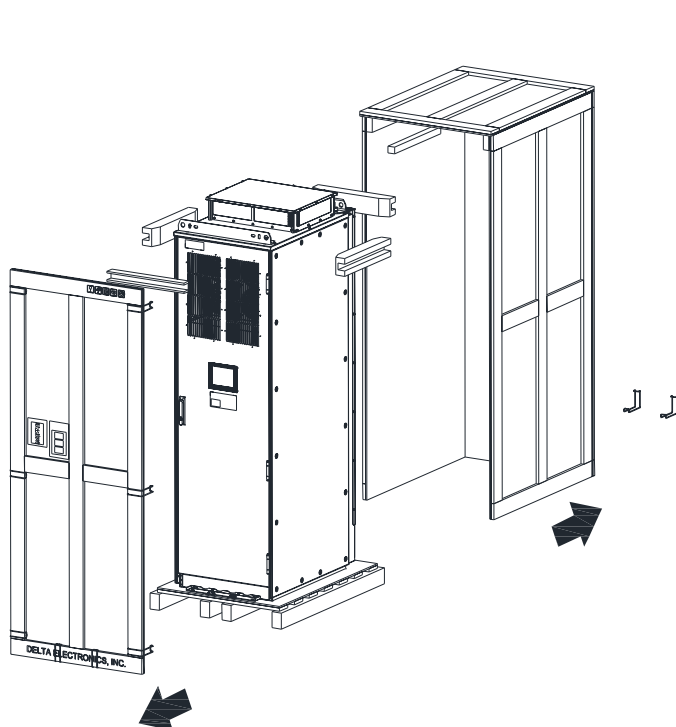
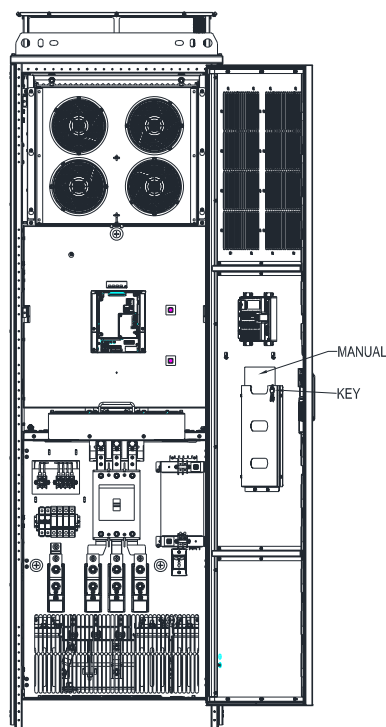

Figure 1-5
Figure 1-6
- 2) Remove the carton and 4 EPE from both sides. Note that the front of the cabinet is facing the lid of the carton (the direction as indicated by the elongated arrow) (see Figure 1-5 below). Open the outer lid of the model by the handle, and you will find the user manual and the keys for the outer lid attached to the inner side of the outer lid (see Figure 1-6 below). Please keep the keys safe as only 2 keys are included in each model. The keys cannot be replaced if lost.